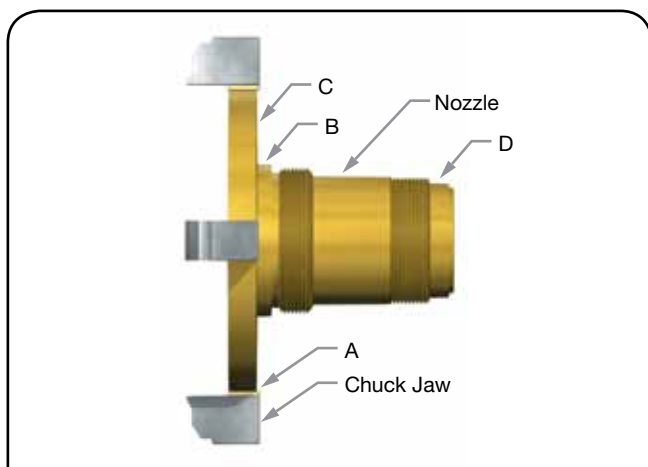

Figure 31: Nozzle Positioned in a Jaw
1. Remove the nozzle (2) from the valve to be remachined. If it cannot be removed from the base (1), re-machine it inside the base.
2. Set-up the lathe and nozzle (2) as follows:
- Grip the nozzle in a four-jaw independent chuck (or collet, if appropriate) using a piece of soft material such as copper or fiber between the jaws and the nozzle (see Figure 31, A).
- True-up the nozzle so that the surfaces marked B, C, and D run true within .001" (.025 mm) on the total indicator reading (see Figure 31).